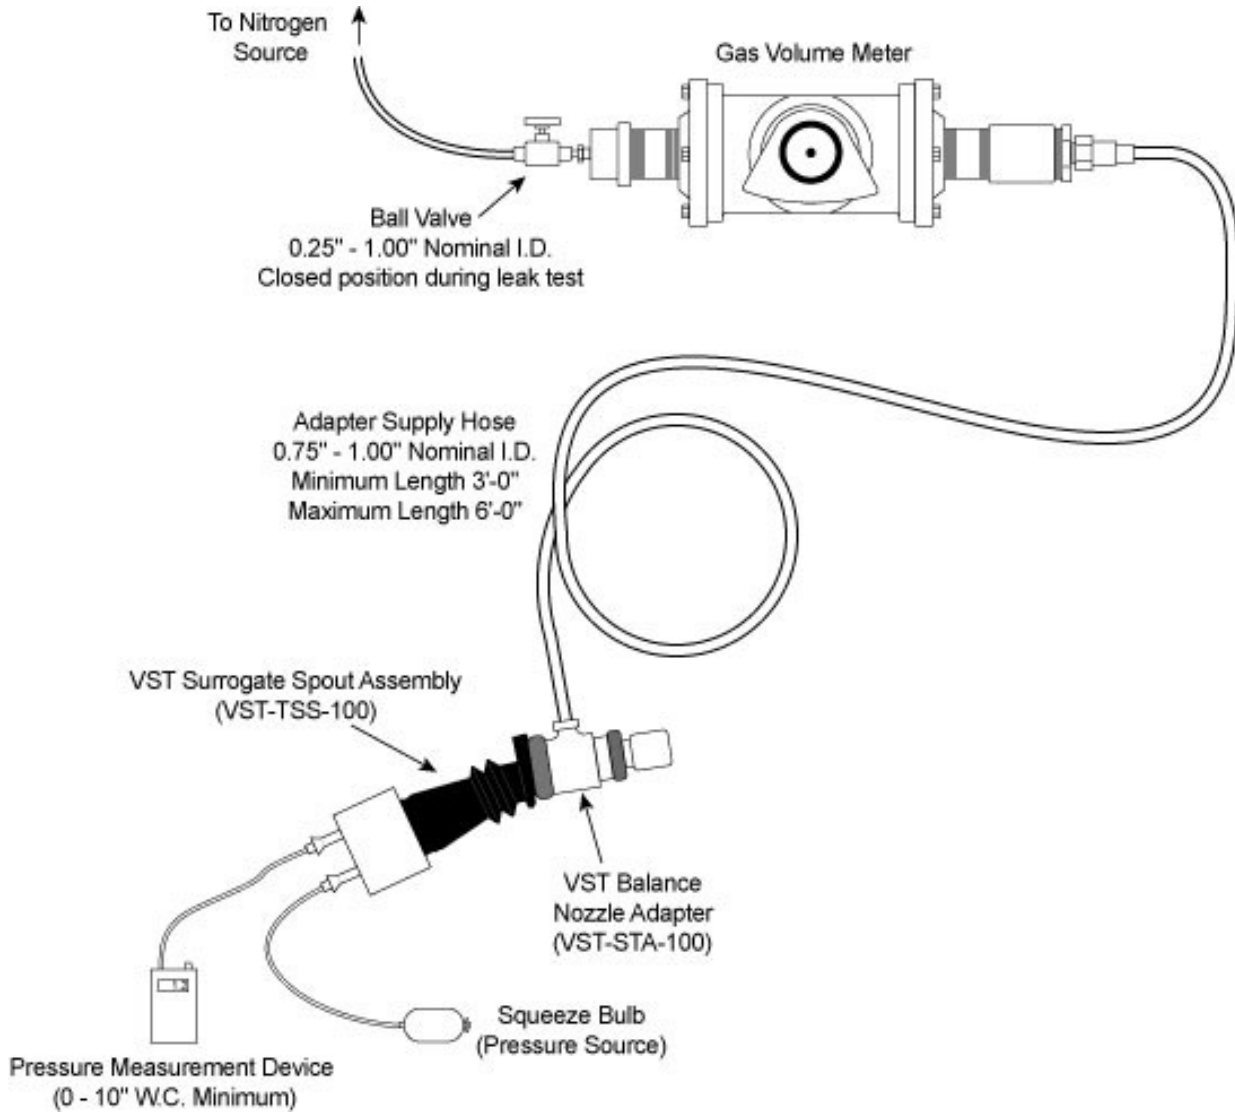

Figure 2
- 2.1 A tight fitting Balance Nozzle Adapter is placed on the spout of the dispensing nozzle. The adapter, which allows the introduction of nitrogen into the nozzle vapor collection path, is connected to the outlet side of a reference volume gas meter. The inlet side of the reference volume gas meter is connected to a flow meter (rotometer) that is attached to a high pressure nitrogen cylinder and a pressure regulator. See Figure 2. Nitrogen is introduced through both the reference volume gas meter and the INCON ISD System Vapor Flow Meter. Nitrogen flow volumes from both meters are then compared with each other to determine the accuracy of the INCON ISD System Vapor Flow Meter. This process is repeated for the remaining INCON ISD System Vapor Flow Meter equipped dispensers at the GDF.
- 5.5 Balance Nozzle Adapter.** Only the VST Balance Nozzle Adapter Part Number VST-STA-100 can be used on VST nozzles to conduct this operability test (Figure 1). Only the EMCO Wheaton Retail Balance Nozzle Adapter Part Number 494761EVR can be used on EMCO nozzles to conduct this operability test (Figure 2).
- 5.6 Surrogate Spout.** Only the VST Surrogate Spout Assembly Part Number VST-TSS-100 can be used on VST nozzles to conduct the pre-test leak check (Figure 1). Only the EMCO Wheaton Retail Surrogate Spout Assembly Part Number 494771EVR can be used on EMCO nozzles to conduct the pre-test leak check (Figure 2).
- 6.3 Verify leak integrity of test assembly. Conduct a pre-test leak check of the Balance Nozzle Adapter, the reference gas volume meter, and the adapter supply hose by connecting the Balance Nozzle Adapter to a surrogate spout as shown in Figure 1 (VST) and Figure 2 (EMCO). Turn the ball valve in Figure 1 to the closed position. Raise the test assembly pressure to 5.00" \pm 0.50" WC using a squeeze bulb. There shall not be a pressure drop of more than 1.00" WC from the above starting pressure for 30 seconds from the start of the test. If the leak test passes, proceed with the testing. If the leak test fails, proceed to isolate the source of the leak by pressurizing the test equipment again. Apply liquid leak detector solution on interfaces and other potential leak sources and watch for the formation of bubbles. Once leak(s) are repaired, repeat the leak test procedure.